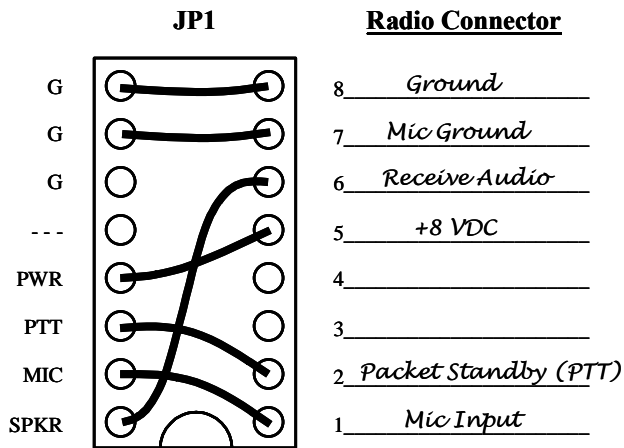

Figure 3 6 Example Jumper Wire Diagram for TS-450
- **Draw Jumper Wires** - Once you have verified your pin-out and are comfortable with the results, you are ready to label the lines in Figure-2 and draw in the jumper wires. To do this, you simply need to draw a line between the pins on the left of JP-1 (G, PWR, PTT, Mic & SPKR) and their appropriate match on the right side of the diagram. For example, draw a line between “PWR” pin on the left of JP-1 and the line that you labeled “Accessory Voltage”. The “PTT” pin should be connected to the pin that you labeled “PTT” and so on. If you are installing the Signalink on a Data or Accessory port, then refer to Figure 1 for the correct signal names. An example of the Jumper Wiring Diagram for a Kenwood TS-450 is shown in Figure 3.